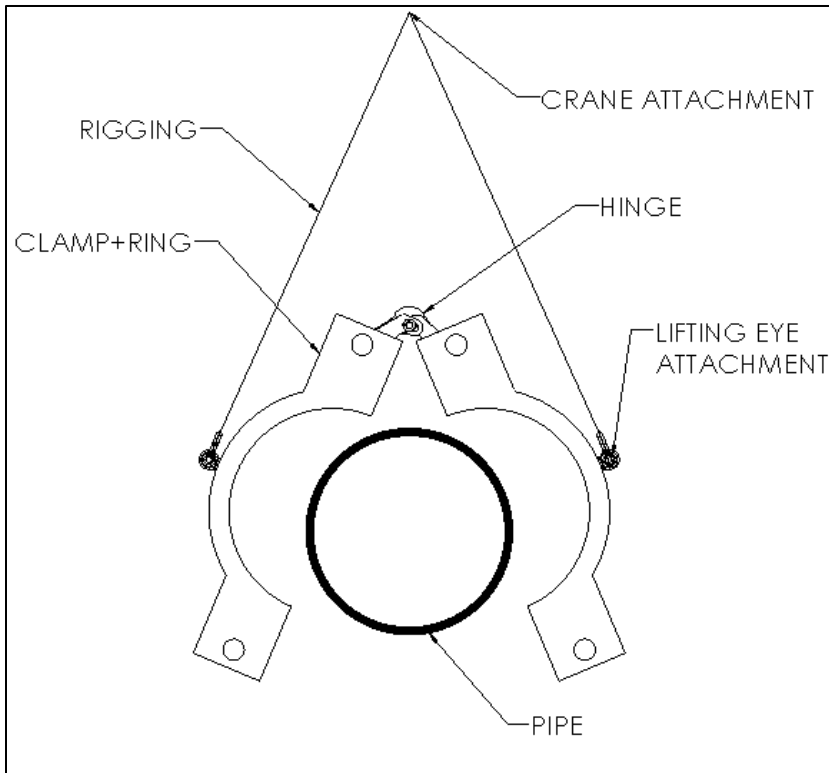

Figure 9
4. Attach properly sized rigging such as chains, cables, or straps to a single point crane attachment. The rigging should be sufficiently long enough that the rigging doesn't interfere with opening and closing of the fitting as shown in Figure 9.
5. Lift the fitting up from the single point crane attachment. The Clamp+Ring will open up as shown in Figure 9.